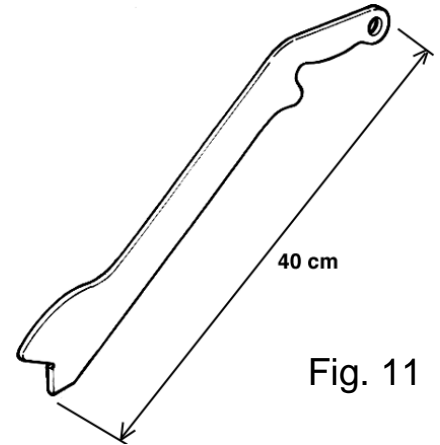

Fig. 11
- **The longitudinal pusher** (Fig. 11), allows you to guide the advancement of long sawn narrow boards.